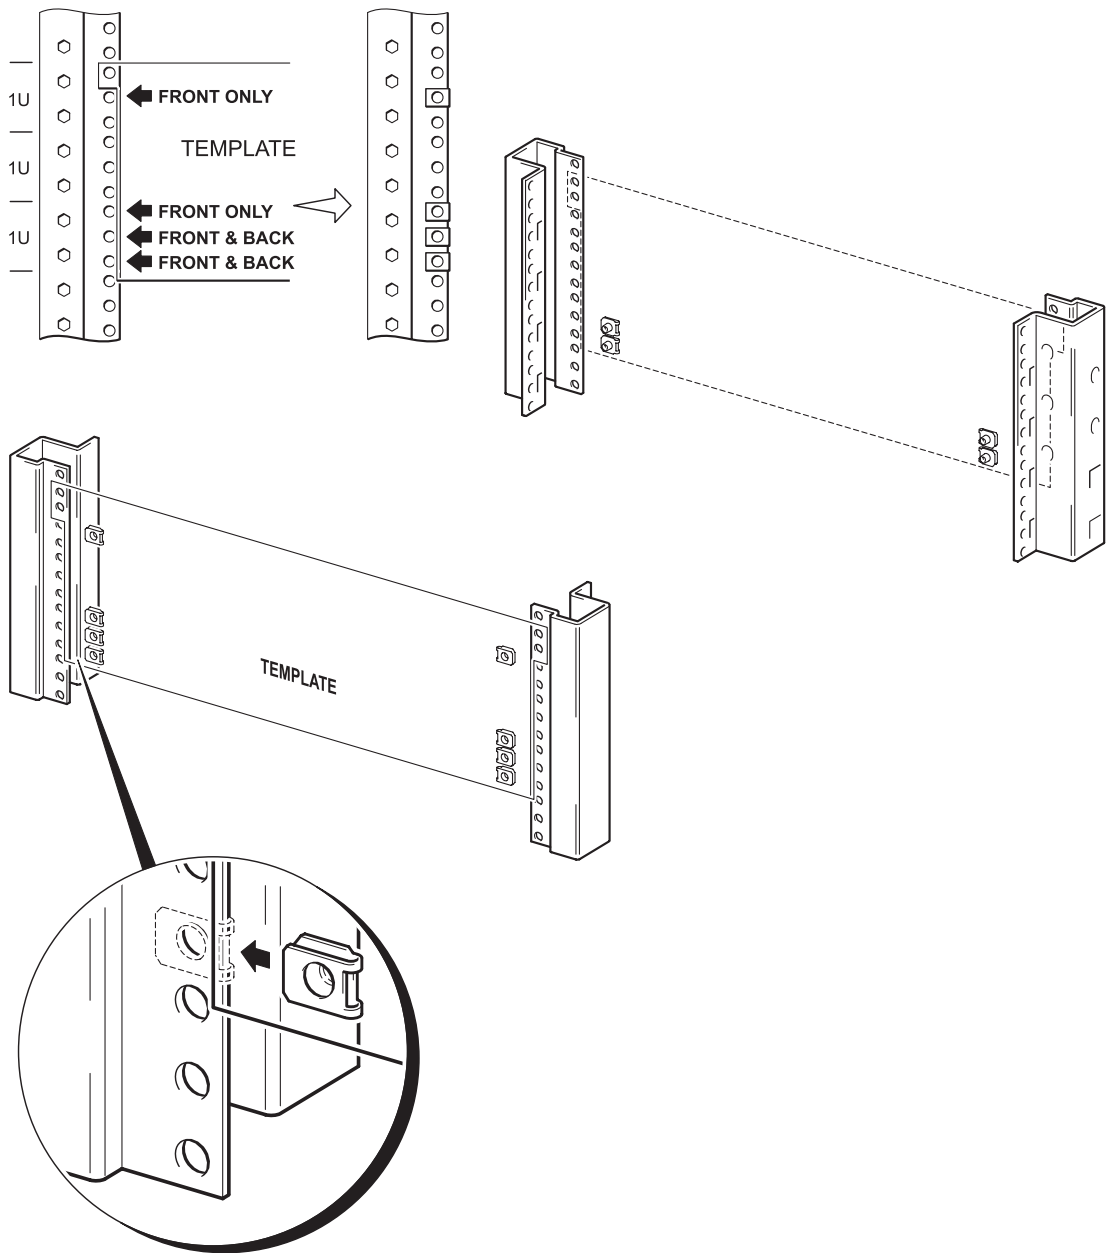

Figure 2a: Install M5 clip nuts (round hole profile)
- 3 Place the first eight clip nuts, as shown in Figure 2a, at the locations indicated by the black arrows marked either "FRONT ONLY" or "FRONT & BACK" on the template (four clips to each side). This is done by sliding the clip nut over the hole of the rack column until it snaps into place.